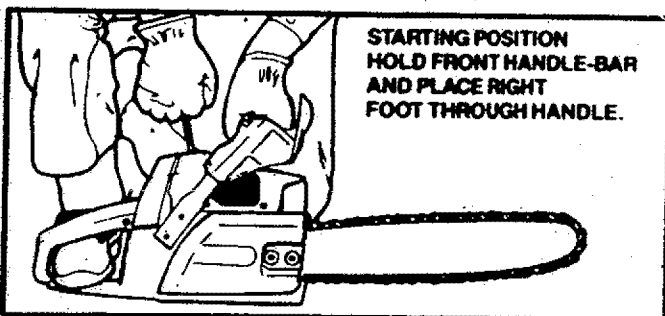

Figure 15
- Set the saw on flat ground making certain the saw chain is free to turn without contacting any object. Figure 15.